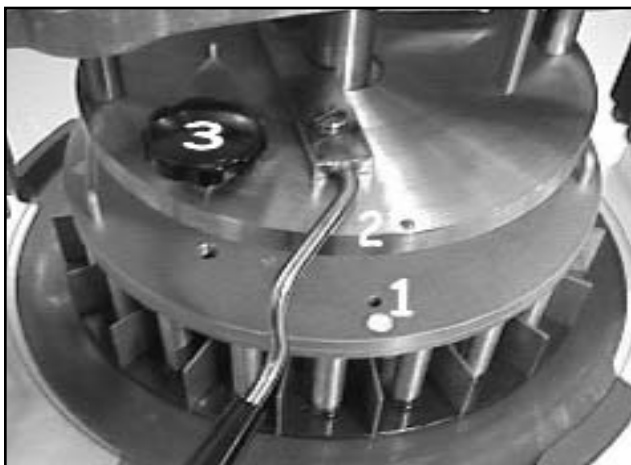

Figure 15
3. Rotate the head assembly, Fig. 15, No. 1, $\frac{1}{4}$ turn clockwise. Alignment pin at front of trip plate, Fig. 15, No. 2, will engage in hole in head assembly, No. 1.
5. Tighten both hand knobs (Fig 15, No. 3).